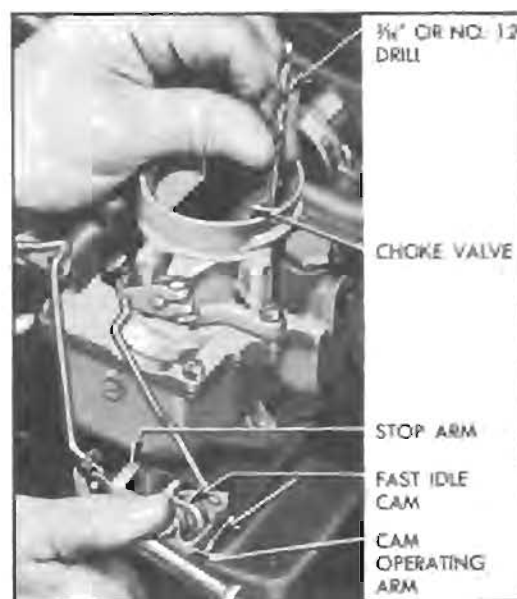

Figure 3-29—Checking Carter Choke Unloader Adjustment
If the engine becomes flooded for any reason, the choke valve can be partially opened by depressing accelerator pedal to the full extent of its travel. This causes a tongue or arm on the throttle lever to contact and rotate the fast idle cam, which forces the choke valve open. See figure 3-29.
4. Open throttle until stop arm on throttle shaft lever contacts boss on body flange, then check clearance between upper edge of choke valve and wall of air horn, using a $\frac{3}{16}$ " gauge (T109-28 or No. 12 drill). See figure 3-29.